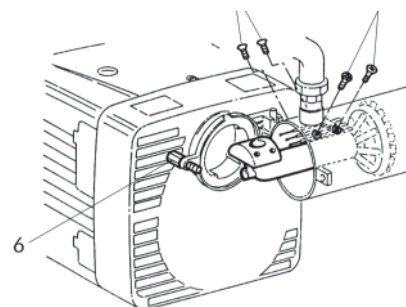

fig.6
- To gain access to the draught tube and to the electrodes, remove the hinge screw 6 and the screws 7 (fig.6).